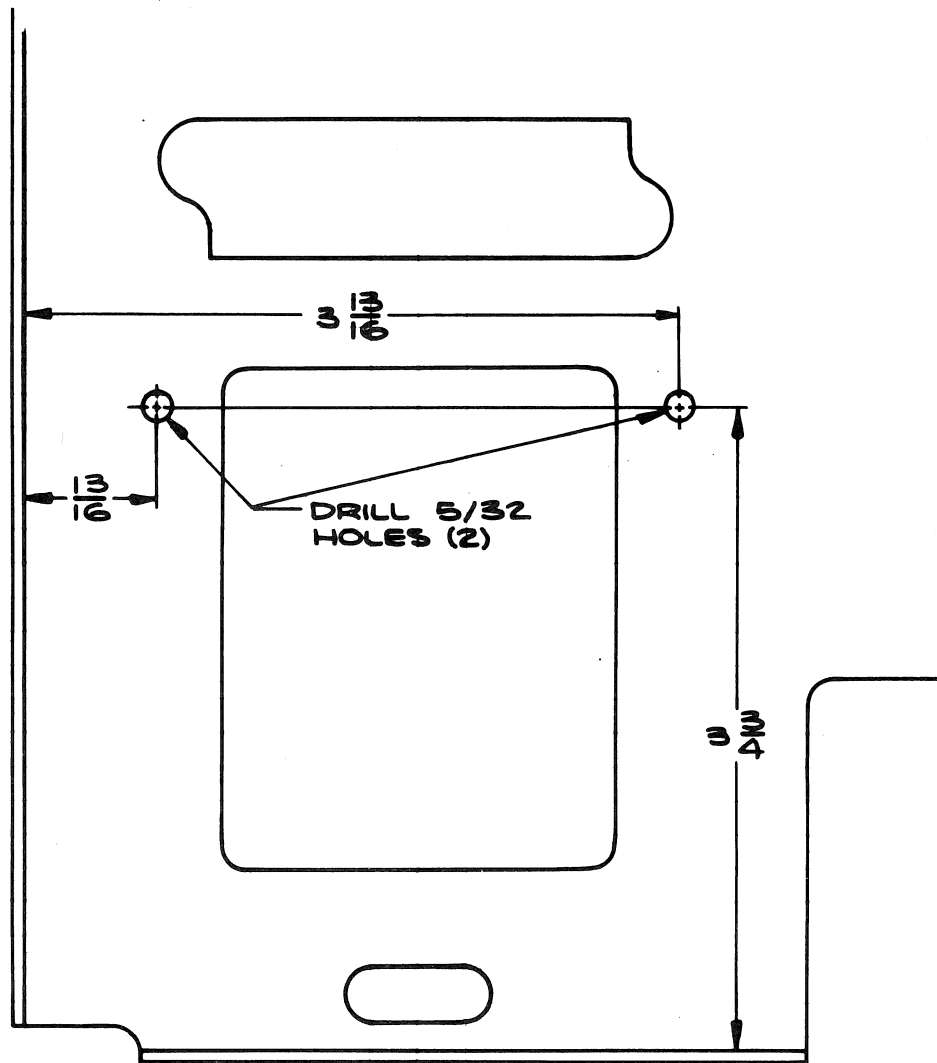

Fig. 1
- ( ) 1. Drill two 5/32 in. holes in the bulkhead, at the rear of the left plug-in compartment, as shown in Fig. 1.